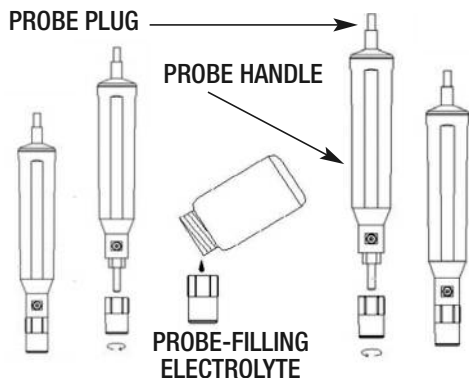

Fig. 2. Filling the probe head with electrolyte
1. Before calibrating the probe, make sure that it is full of fresh electrolyte. Use the following procedure—while referring to Fig. 2—either to fill the probe with electrolyte or to replace old electrolyte with fresh electrolyte.